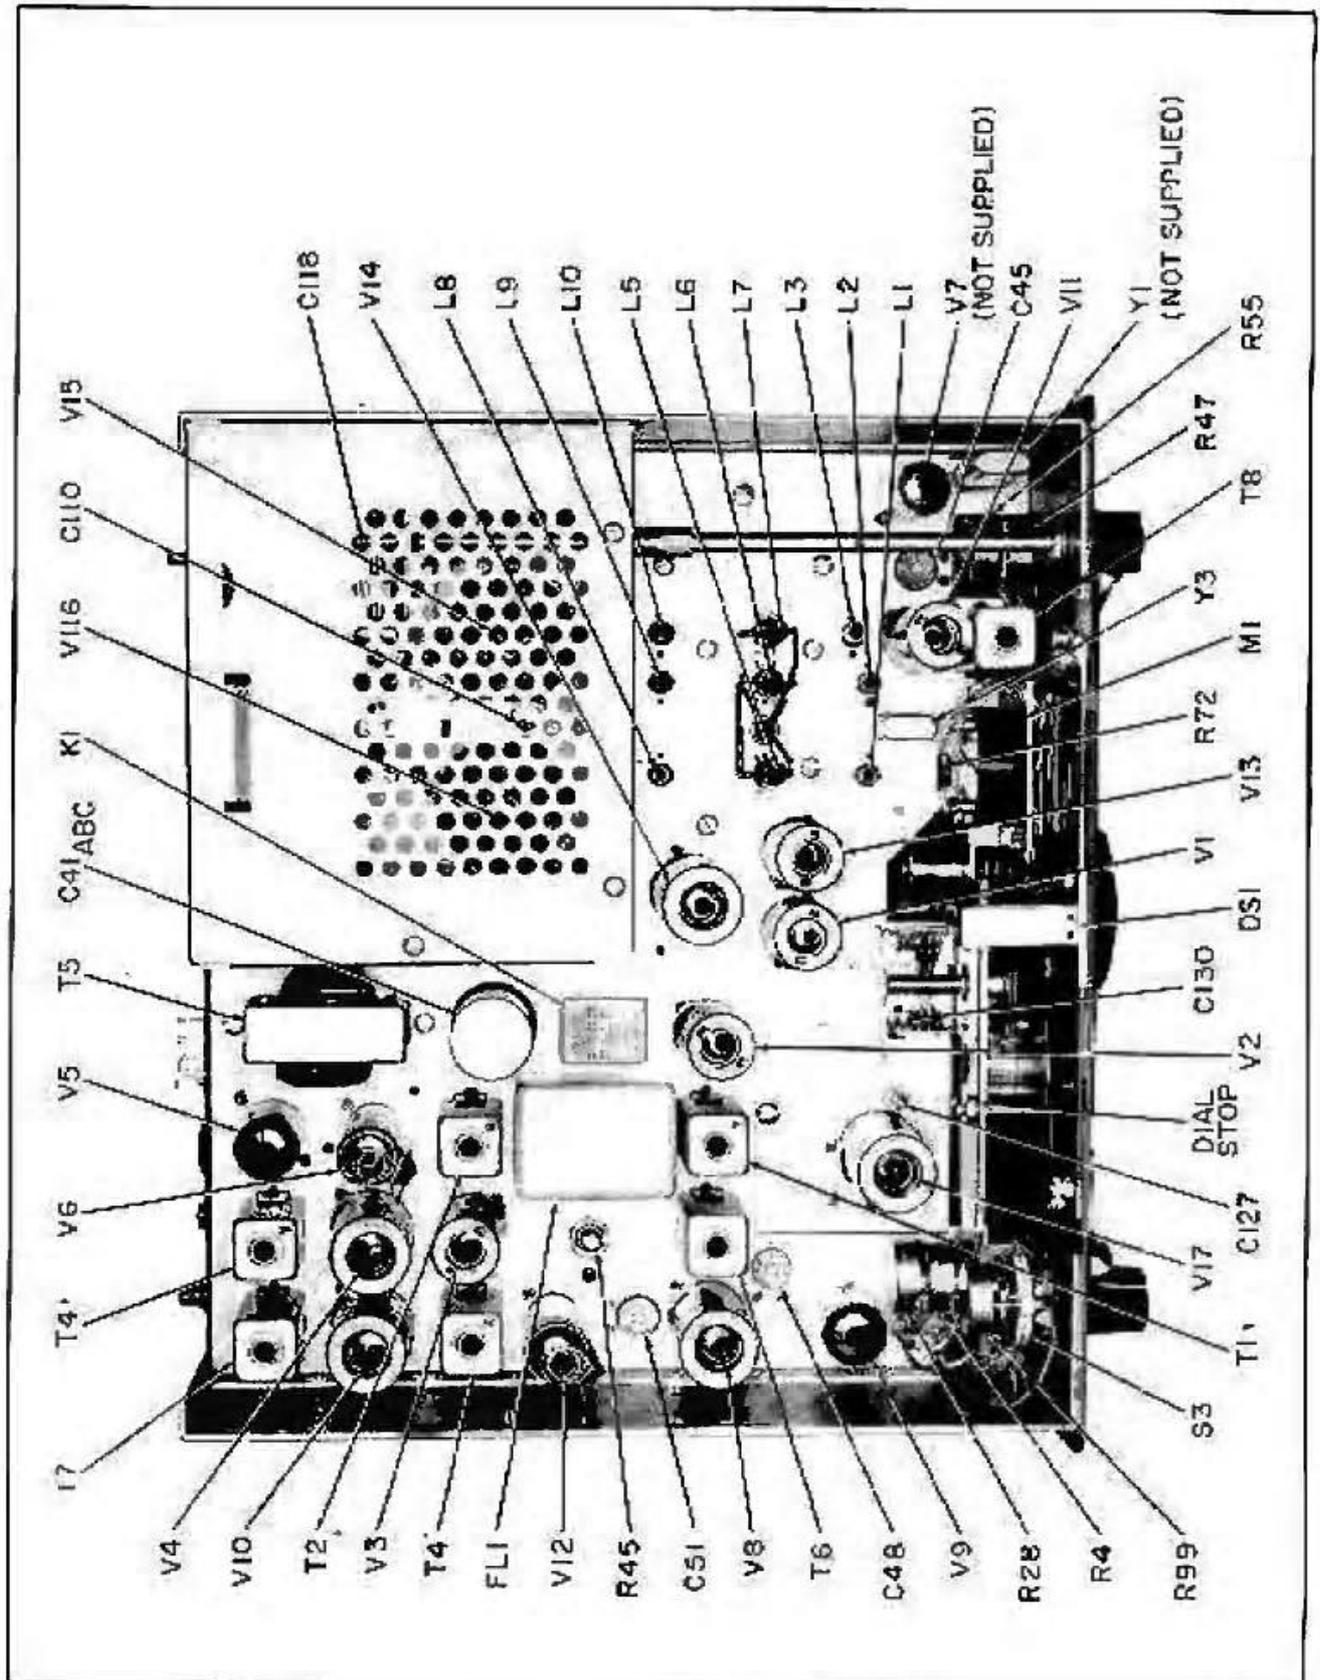

Figure 12. Top Chassis View of Transceiver.
Do not make any adjustments unless the operation of this transceiver is fully understood and adequate test equipment is available. Refer to figures 12 and 13, the top and bottom views of the transceiver, for the locations of all adjustments.
1. Loosen the dial stop lock nut and back-off the dial stop screw. (See figure 12.)